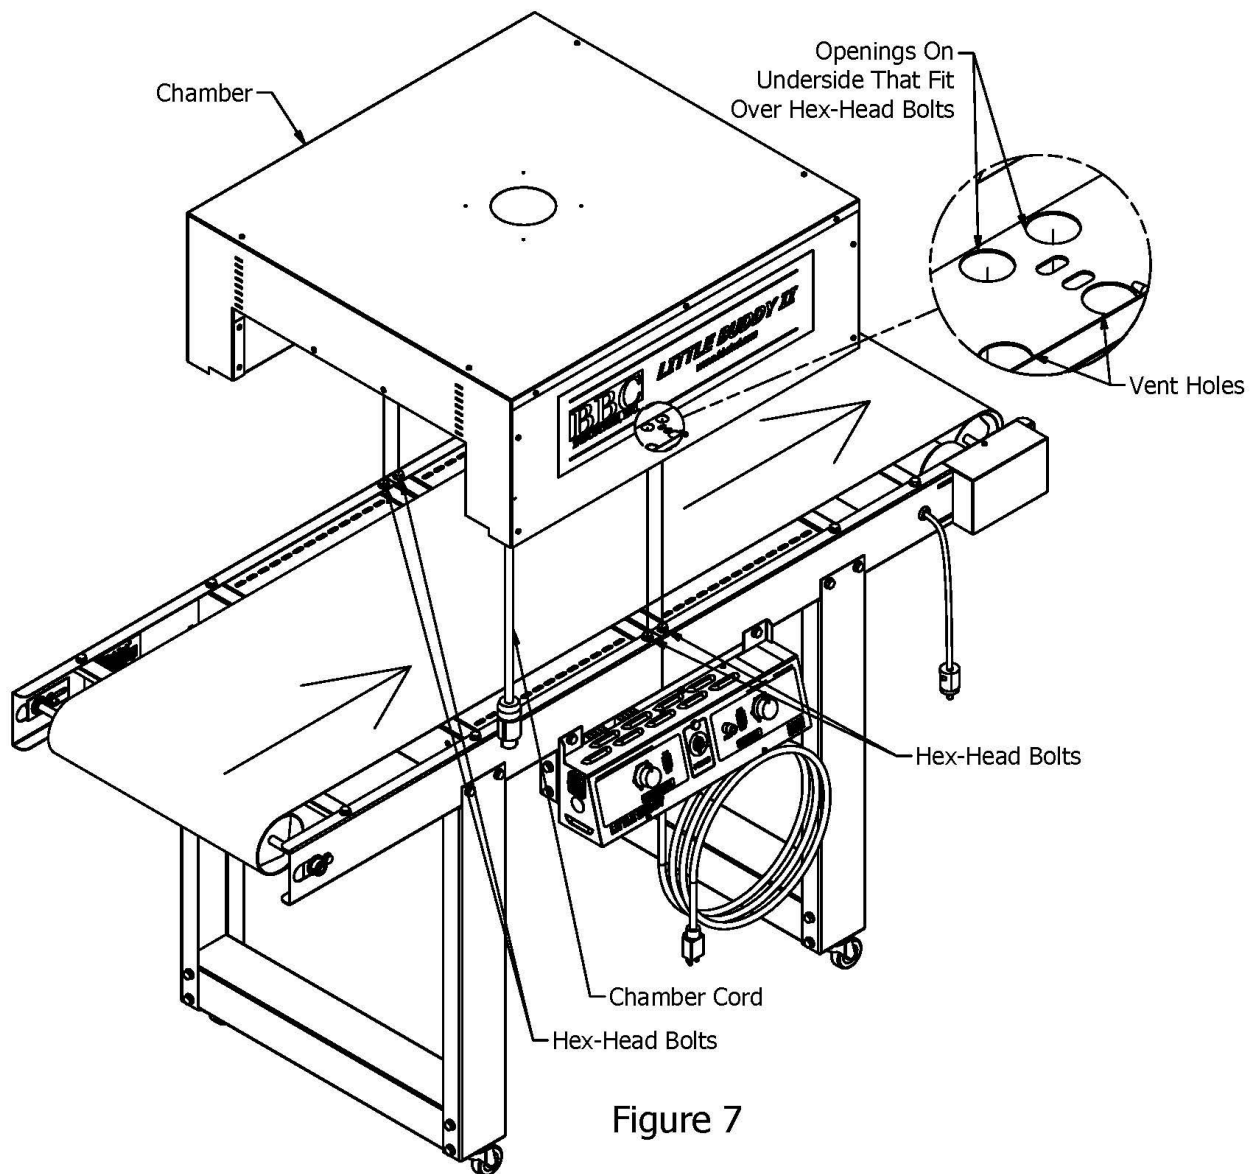

Figure 7
1. **Using two people** set the chamber onto the conveyor bed. (See Figure 7) The Heating Chamber cord must be on the same side of the Conveyor Bed as the Control Panel.
2. The Heating Chamber has openings on the underside rails that fit over the hex-head bolts. (See Magnified View, Figure 7) The chamber should rest flatly on the conveyor bed.